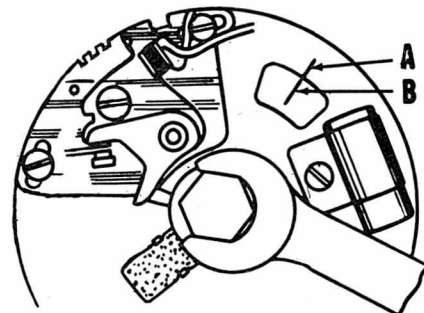

Fig. S11-2—Timing marks (A&B) will align when one piston is in position for ignition.
Ignition points should be set so that maximum point gap is 0.014 inch. Ignition should occur (points just open) when piston is 2.28 MM (0.089 inch) BTDC. Adjust each set of points separately. One of the two timing marks (B—Fig. S11-2) will align with mark (A) when each piston is in correct position for ignition.